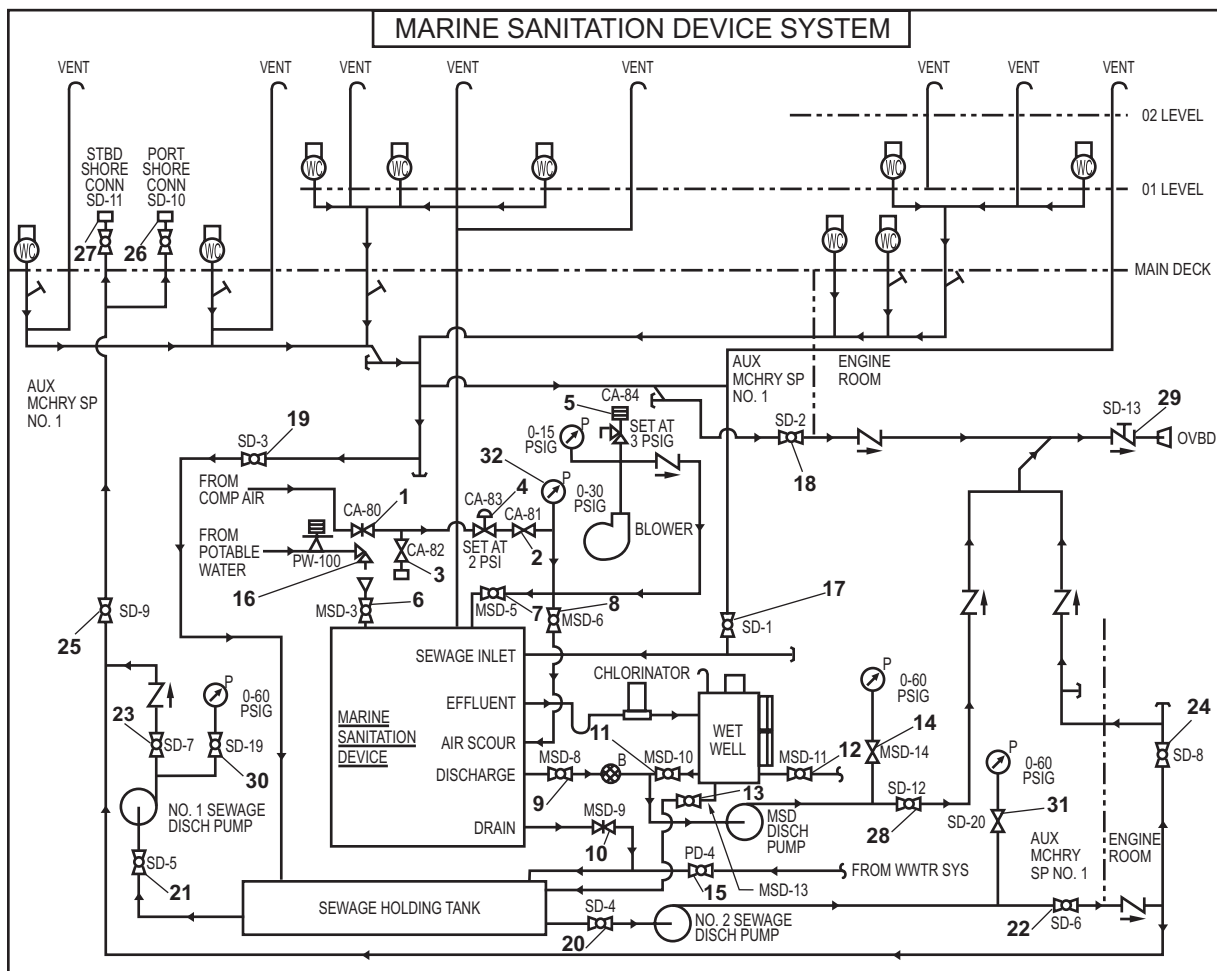

Figure 3. MSD Schematic
6. Align the valves for the MSD as specified in figure 3 and table 2.
1. Align the valves for the MSD to operate under unusual conditions as specified in figure 3 and table 1.
2. OPEN valve SD-3 SEWAGE DRAIN TO HOLDING TANK (figure 3, item 19).
3. Verify that valve SD-2 SEWAGE OVERBOARD DISCHARGE (figure 3, item 18) is CLOSED.
4. Verify that valve SD-1 SEWAGE INLET TO MSD (figure 3, item 17) is CLOSED.